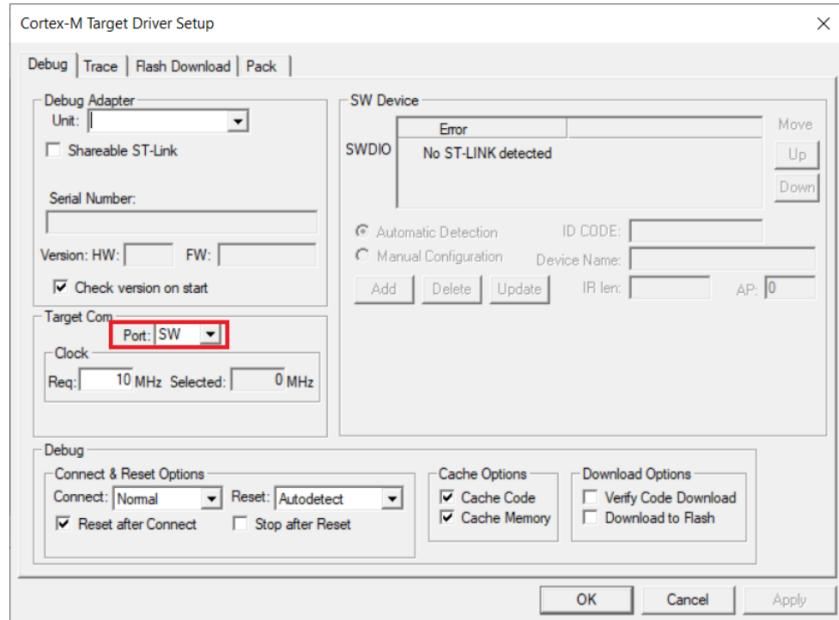

Figure 12
- Under the **Debug** tab, select **SW** from the drop-down menu for the **Target Com → Port** option (see Figure 12).